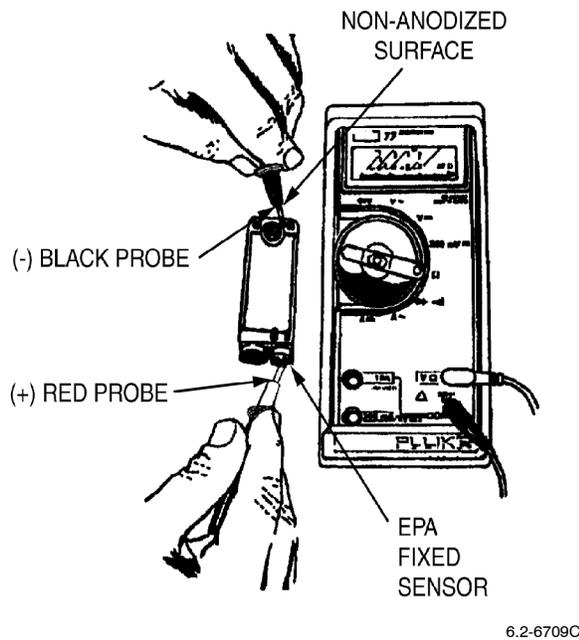

Figure 36. Perform Resistance Check
(9) Contact probes to EPA fixed sensor (+) and non-anodized surface of EPA (-) (Figure 36).
(10) Read resistance on multimeter. If reading is greater than 20 megohms, or over limit (OL), EPA is deemed serviceable. If less than 20 megohms, EPA has failed to pass resistance check and will be tagged unserviceable. Obtain another EPA and repeat sub-steps (9) and (10). (QA)
(11) Install sensor plug in EPA finger tight.